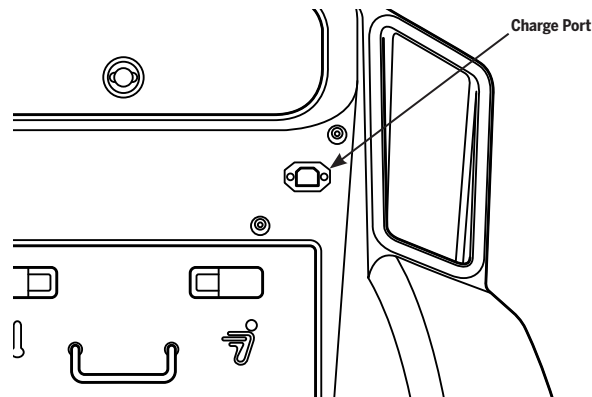

Figure 39: Verify the Charge Port is clean, dry, and free of debris
2. Verify that the Charge Port, Power Cord, and AC Power outlet are clean, dry, and free of debris (**Figure 39**).